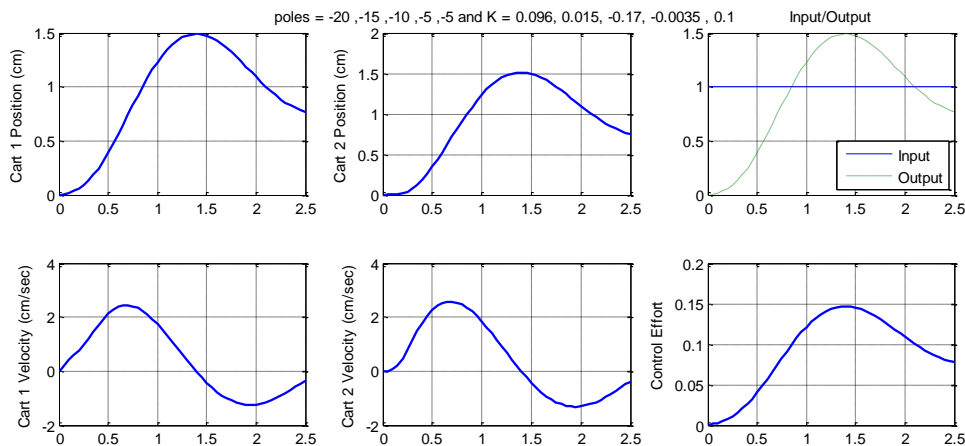

Figure 6: State feedback control of a 2DOF rectilinear system with bad data
- 8) Assume your lab partner made a mistake in the system analysis and your model is not accurate. You will simulate this error by setting the A matrix to $0.75 \cdot A$ after the gains have been determined for the poles in step 6. Run the simulation for 3 seconds and the results should look similar to Figure 6. Note that it does not meet the settling time and percent overshoot requirements anymore.